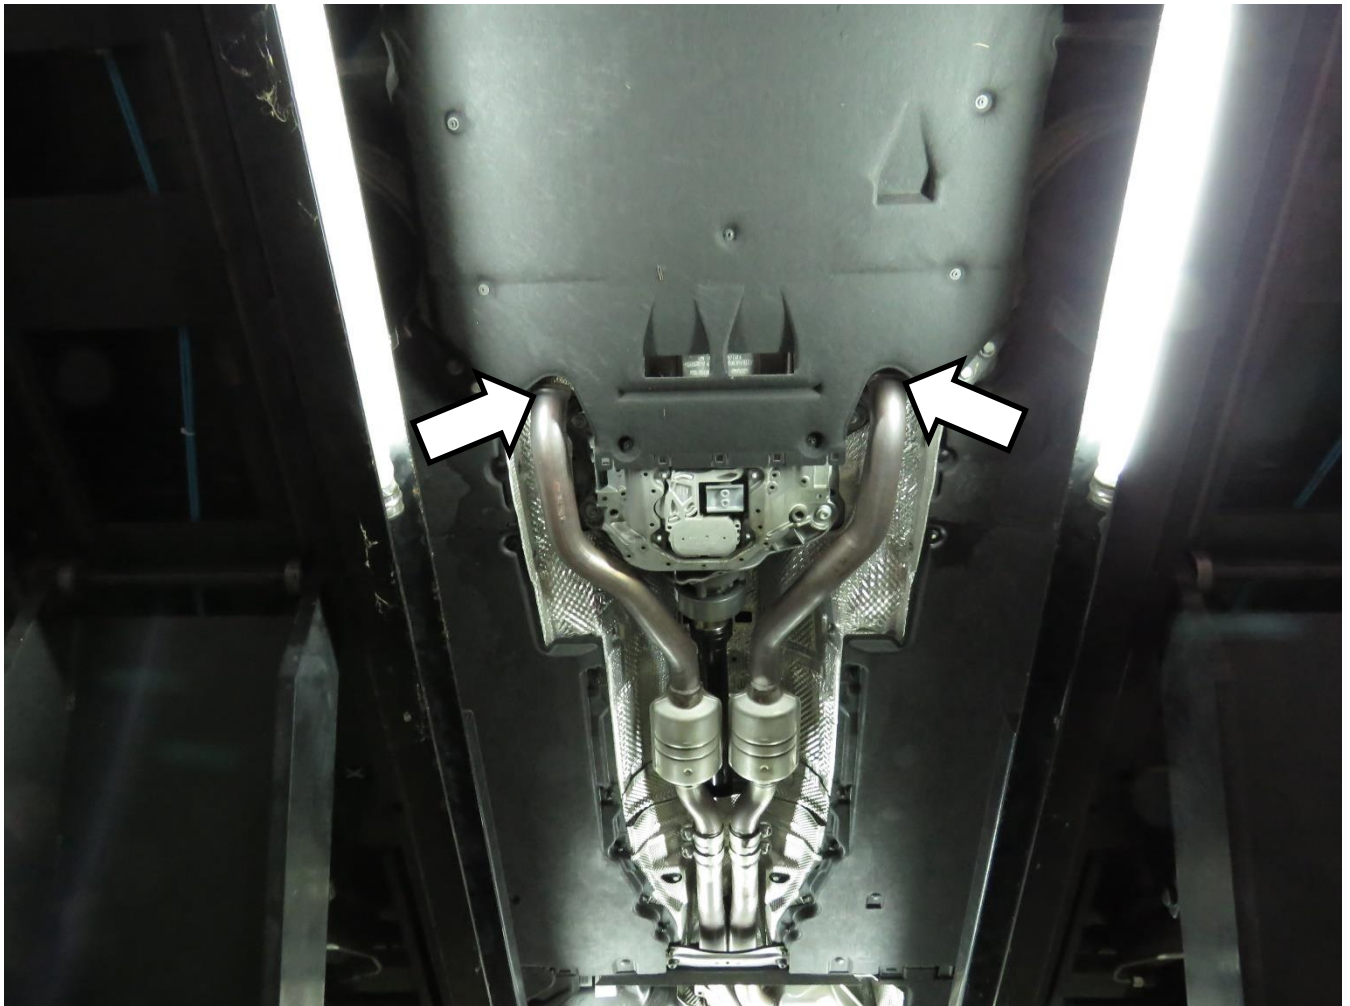

Figure 4
4) Remove screws and front section (Figure 4).